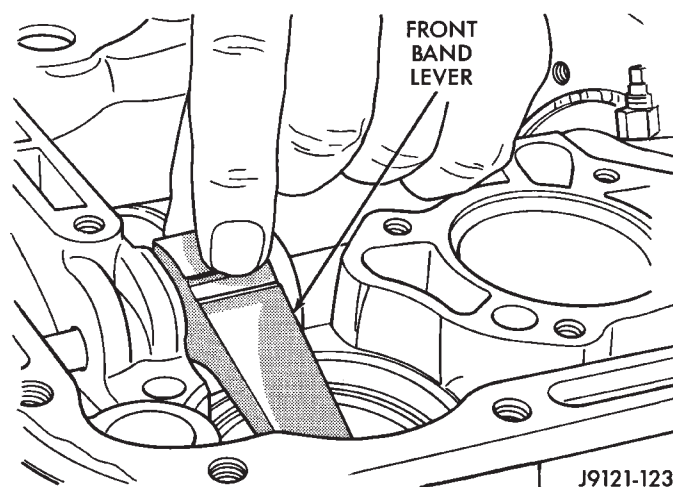
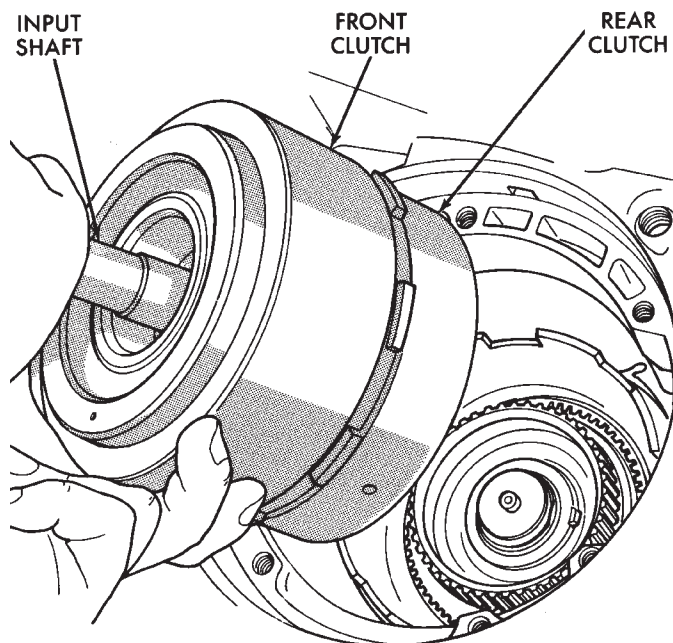

Fig. 13 Removing/Installing Front Band Lever
Fig. 14 Removing Front/Rear Clutch Assemblies
(21) Remove front band lever (Fig. 13)
(22) Slide front band rearward and onto driving shell. Band will not be removed until after front/rear clutch removal.
(23) Remove front and rear clutch units as assembly. Grasp input shaft, hold clutch units together and remove them from case (Fig. 14).